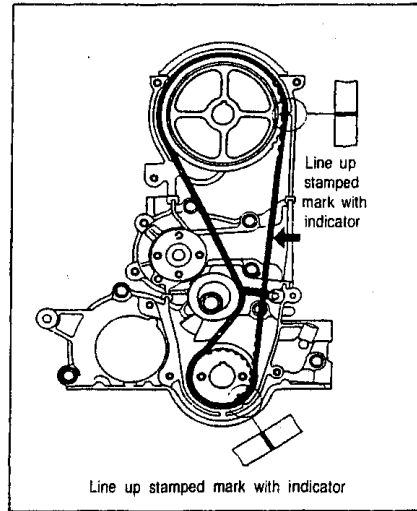

Fig. 1-117
- 1) While installing the timing belt, be certain that the belt is not slackened at the side indicated by the arrow-head in Fig. 1-117.